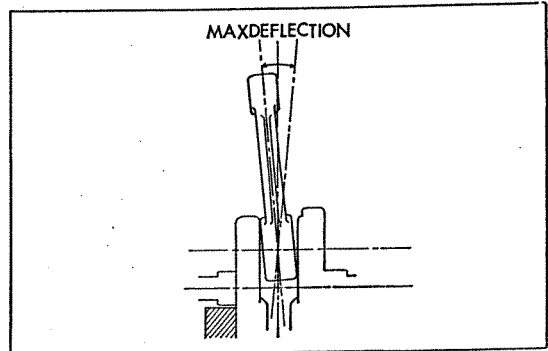

Fig. 3.91 Measurement of maximum deflection at the piston end of connecting rod
1. Measurement of deflection at the piston end of the connecting rod. (Refer to Fig. 3.91)